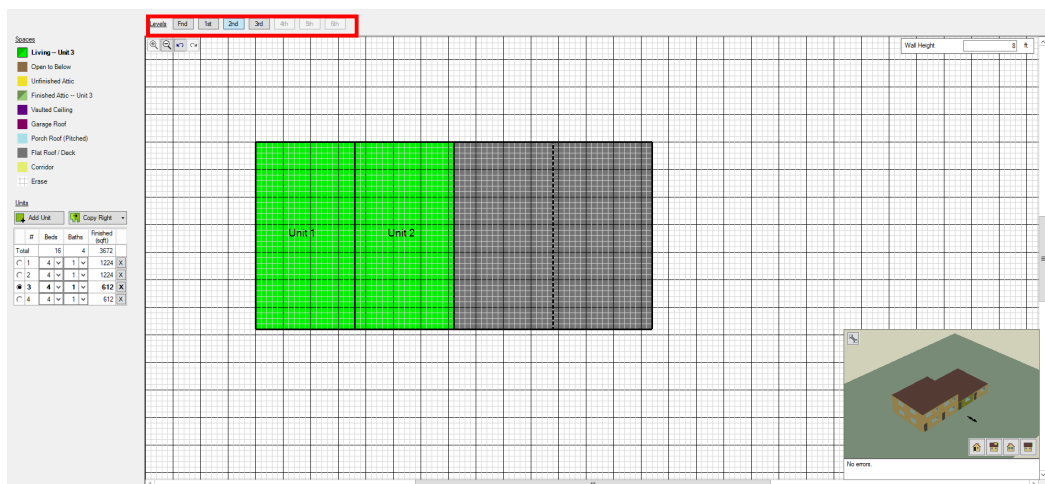

Figure 7: Second Floor of Model
- Figure 7 presents units 1 and 2 after the living space has been specified.